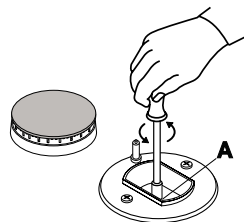

fig.8
- Unscrew the nozzles "A" (fig.8) using a 7 mm socket wrench and replace them with the ones which have a diameter suitable for the type of gas to be used, according to the table 1 "burners and nozzles specifications).